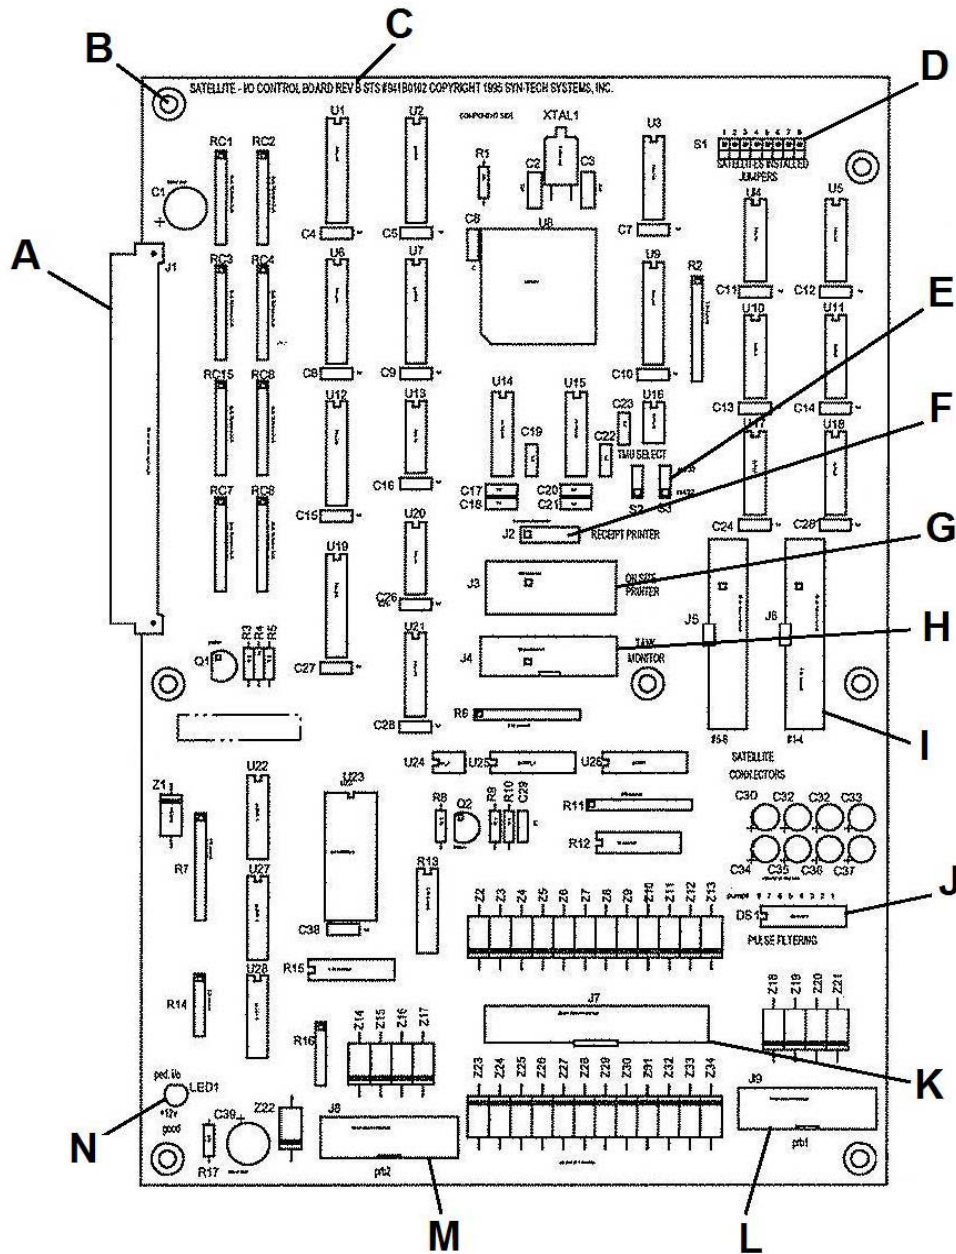

Figure 4-28. Satellite I/O Control Board
9. **Tank Monitor Interface** (see Figures 4-28 and 4-29). Tank monitor interfaces are only possible to a Master FMU equipped with a Tank Monitor Interface Kit, part number 202002A. Interface cable connections at the FMU will be dependent upon the use of RS-232 (3-conductor) or RS-422 (2-pair with drain) cable. In either case, connections will be made to a 5-pin connector in JP13 on the I/O Silver Board. RS-422 may be necessitated by the length of the cable run. Many tank monitors do not recommend RS-232 cable lengths in excess of 50 feet. Where excessive distances dictate the use of RS-422, an RS-232/422 converter such as the Patton Electronics 222N (Syn-Tech part number 219517) may be used to step down RS-422 to RS-232 with a DB25 connector for connection to the tank monitor. Patton also makes an RS-422/232 converter with DB9, RJ-11, or RJ-45 connectors for connection to the tank monitor. Syn-Tech does not inventory converters other than with a DB25 connector. Patton advises the separation distance is extended to 4000 feet with their RS-422/232 converters.